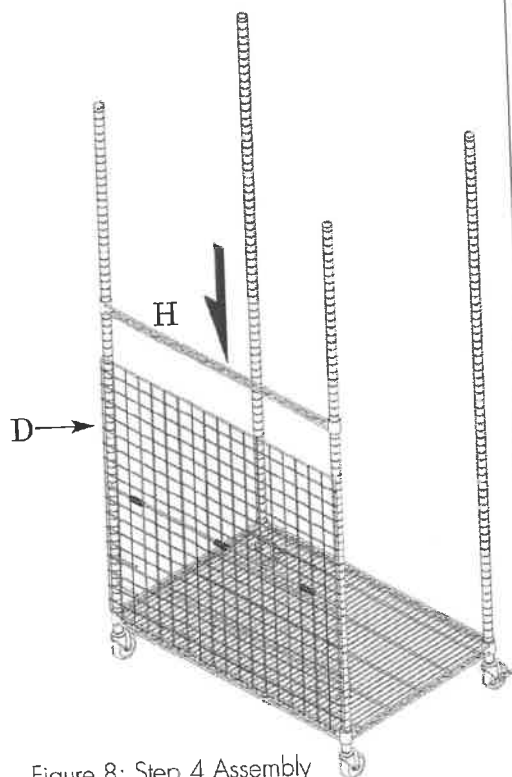

Figure 8: Step 4 Assembly
Attach two pairs of sleeves (I) to bottom tubes (B) as close as possible to the top of the back panel (D). This sets the height of the back bar (H). Slide back bar (H) until it rests on the sleeves (I), as shown in Figure 8.